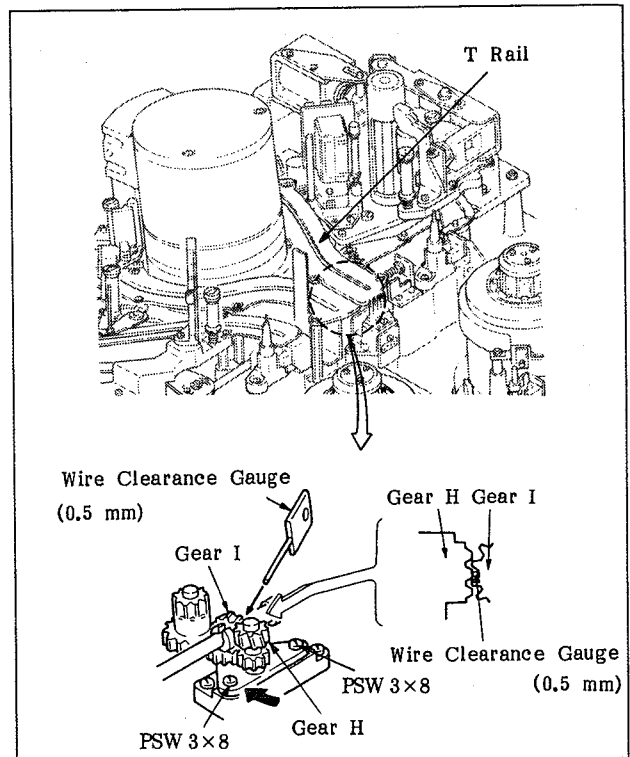

Fig. 6-60. Adjustment of the Drive Shaft and Gear H
- Insert the 0.5 mm diameter wire clearance gauge between gear I and gear H, as shown in Figure 6-60. Then, tighten the two screws firmly while pushing gear H in the direction of the black arrow. Remove the wire clearance, and check that the same wire clearance gauge (0.5 mm dia.) can be inserted in the same position smoothly.